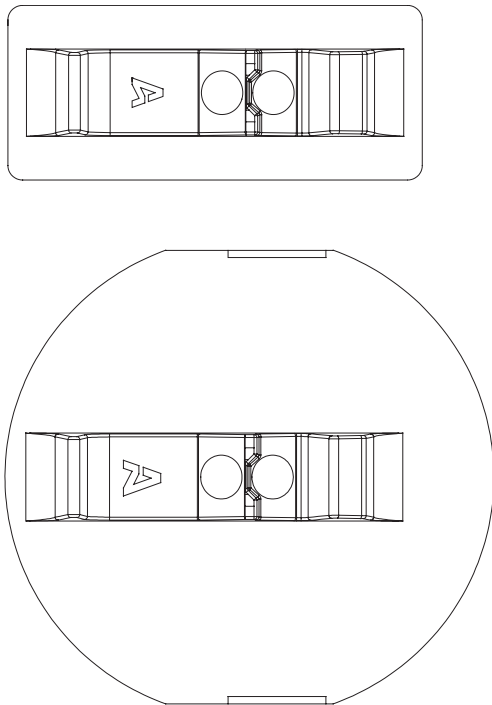

Figure 36. Avago Technologies's logo locations
3. See IR reflow profile (Figure 36)